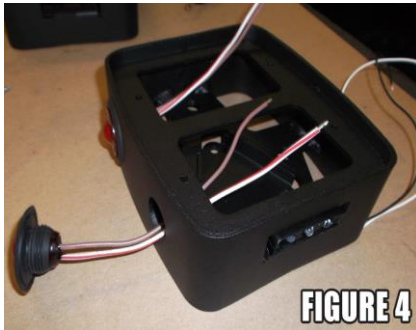

FIGURE 4
5. After attaching the License plate light, press the Red 1" Round Marker Lights into the 3/4" holes on the sides of the housings. Thread the wires of each light through a hole from the outside and press the lights into place as shown in **Figure 4**. There will be two of these lights per housing.